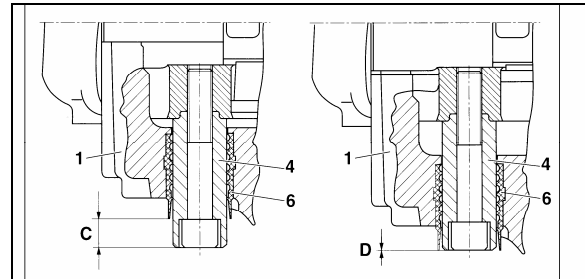

FIGURE 39: BRAKE PAD CHECK
Brake pads have to be checked on a regular basis depending on the vehicle operation. The remaining thickness of the pads should never be less than 3/32 inch (2 mm). To check pad condition without removing the wheel, verify the position of guide bushing (6) relatively to guide sleeve (4) (Fig. 39). When guide sleeve is in alignment with guide bushing, brake pad thickness must be checked more precisely with wheel removed. When replacing the brake pads, all four pads on an axle have to be changed at the same time. There is no inner or outer pad, since all pads are the same. Worn pads should be replaced in the same position.